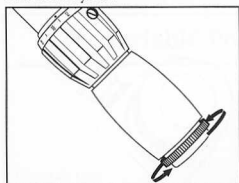

Figure 6
**SIII Models:** Simply rotate the fast focus eyepiece until the reticle appears clear and sharp. (Figure 6)